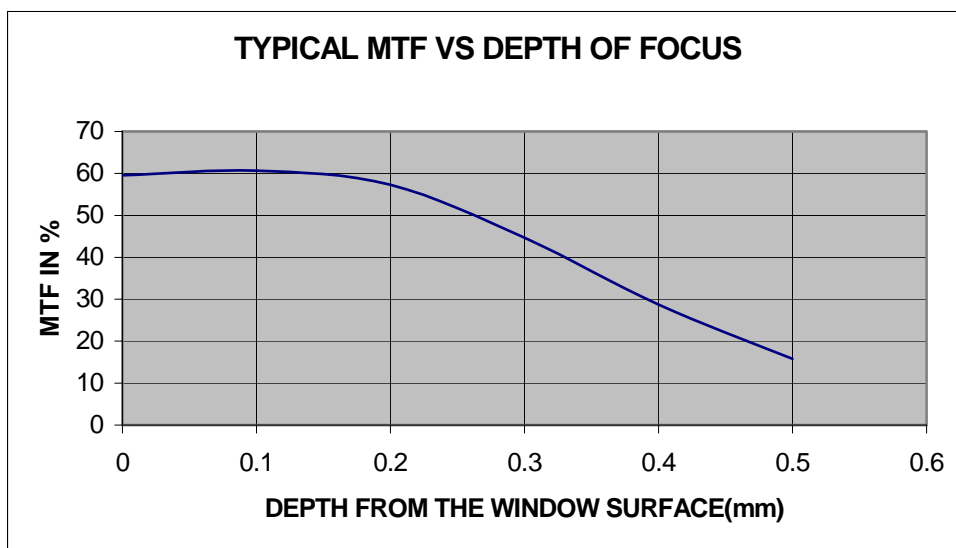

Figure 3: MTF versus Distance
- (6) This level is measured from the reset level, which is located between the pixels, during the pixel reset duration. The reset level is at or near ground, 0V. Note that the gain is adjustable on each output. However, it is recommended that the gain should not be increased above the level where the reset ground level starts to increase above zero.
- (7) A graph of a typical MTF is shown in Figure 3.
The graph in figure 3 depicts the working depth of focus. Since this module is a 400dpi module, a pixel density of 400 pixels per inch, the MTF was measured with a 200dpi or a 100 line-pair per inch optical bar pattern. The test was conducted with the pixel rate set to 2.5MHz (see Figure 3).